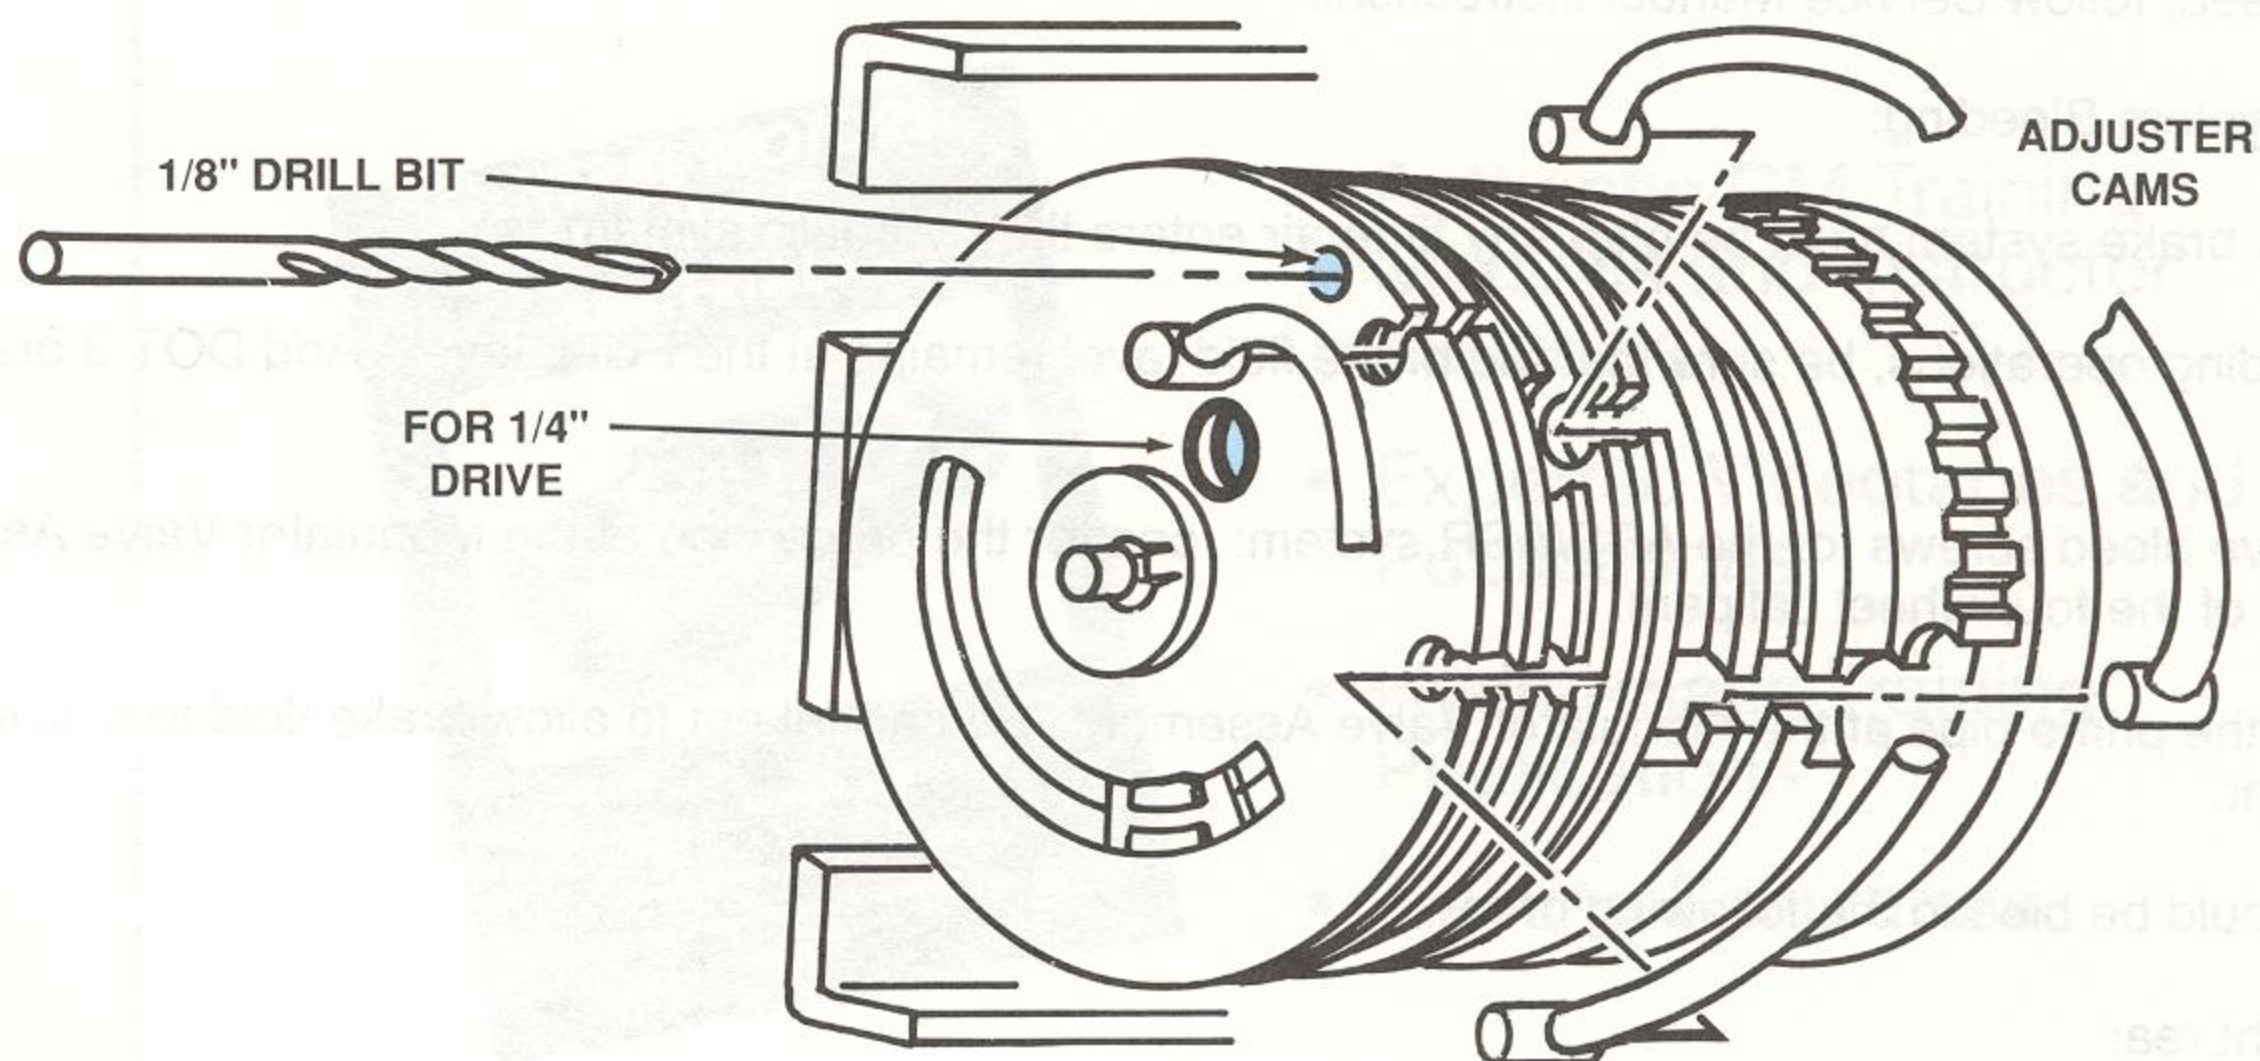

Figure 5-2, 1/8-Inch Drill Bit Locks Cams Together
3. With the cables attached to the cams, but the cruise cable unattached at the cruise servo, the throttle and TV cable must be adjusted. Lock the adjuster cams together with a 1/8 inch drill bit (figure 5-2).